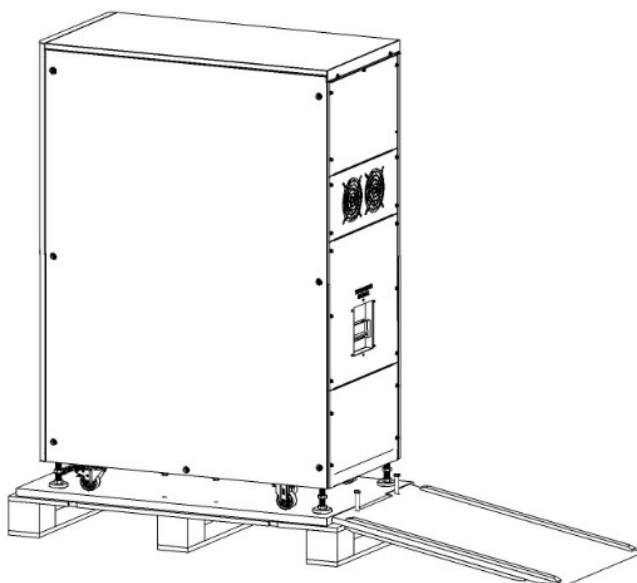

Figure 3-6A
5. Slowly slide the unit from the pallet (Figures 3-6A and 3-6B).